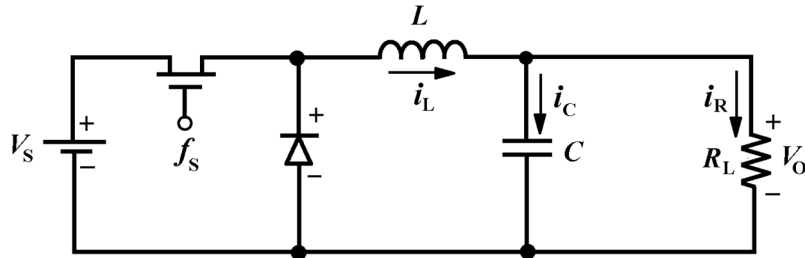

Figure 1
- Design a DC-DC Buck-Converter as shown in Fig. 1 with specifications:  $V_s = 48$  V,  $V_o = 28$  V,  $R_L = 8$   $\Omega$  and output ripple voltage  $< 0.5\%$ . The switching frequency  $f_s = 40$  kHz. Assume all the components are ideal. Specify the inductor and capacitor values and their respective voltage and current ratings. The inductor should be sized such that it is 30% higher than the minimum value to ensure continuous inductor current.